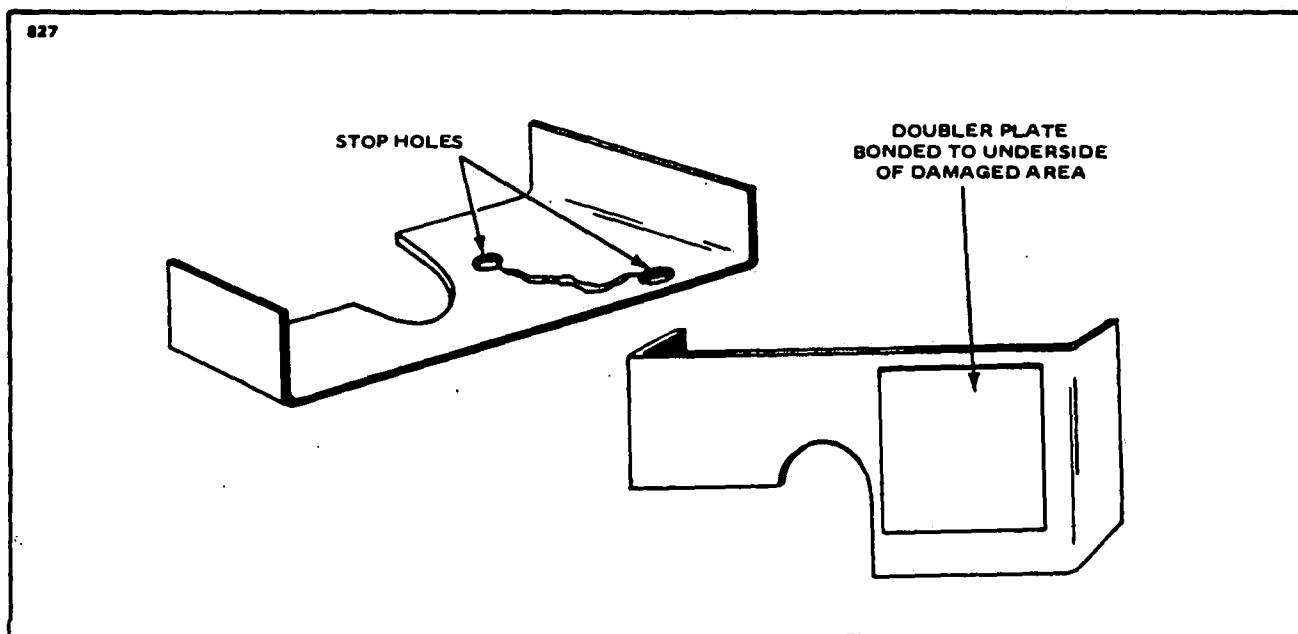

Figure 4-18. Repairing of Cracks
- d. Cracks: (Refer to Figure 4-18.)